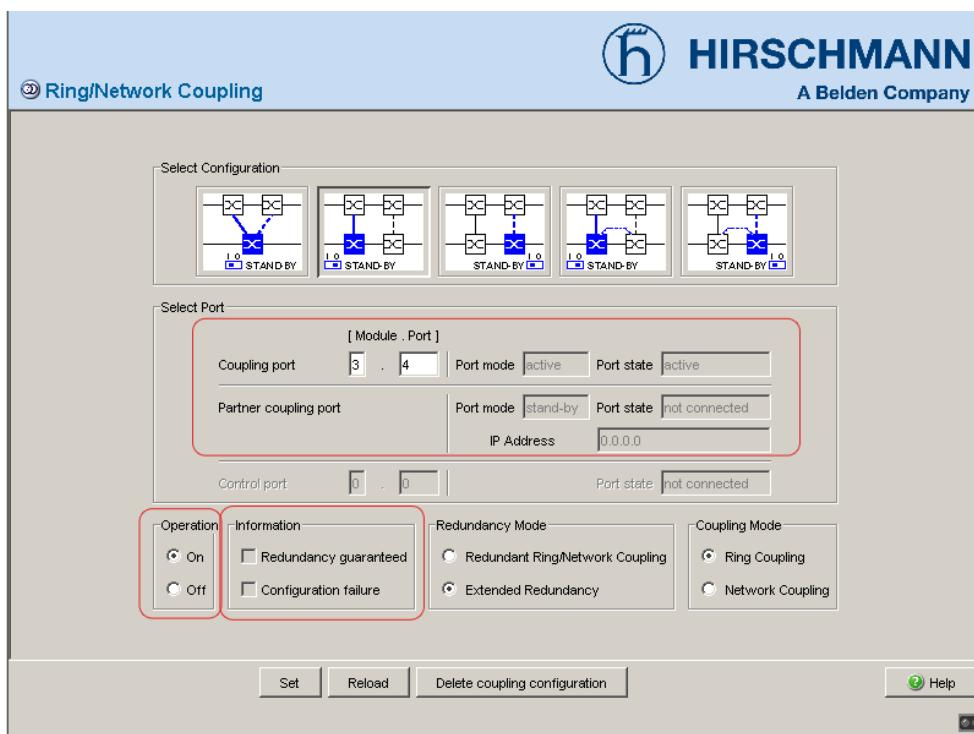

Figure 15: Selecting the port and enabling/disabling operation
Activate the function in the “Operation” frame (see fig. 15).
- Select the coupling port (see fig. 15), (see table 9).
The displays in the “Select port” frame mean (see fig. 15):
- Select the coupling port (see fig. 15), (see table 9). With “Coupling port” you specify at which port you are connecting the network segments.
- Activate the function in the “Operation” frame (see fig. 15).
The displays in the “Information” frame mean (see fig. 15):